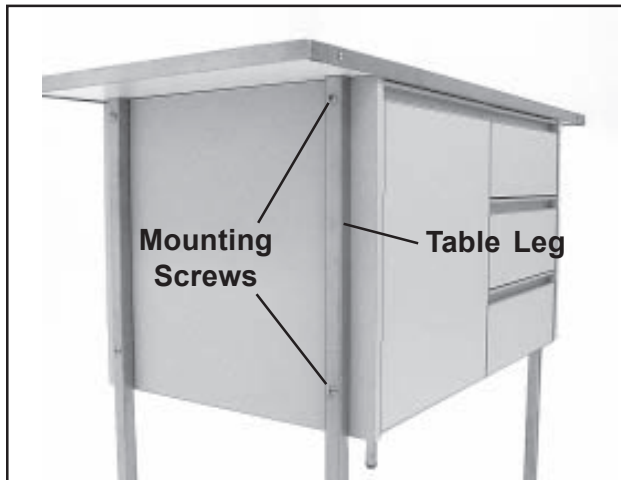

Figure 28. Table Leg
3. With a flat-blade screwdriver, remove both leg mounting screws (Figure 28), and remove the old leg from the table.